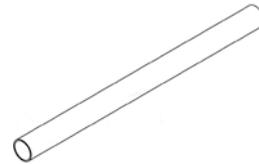

FIG. 12
- ② Handrail sections for the specific step height (FIG. 12)